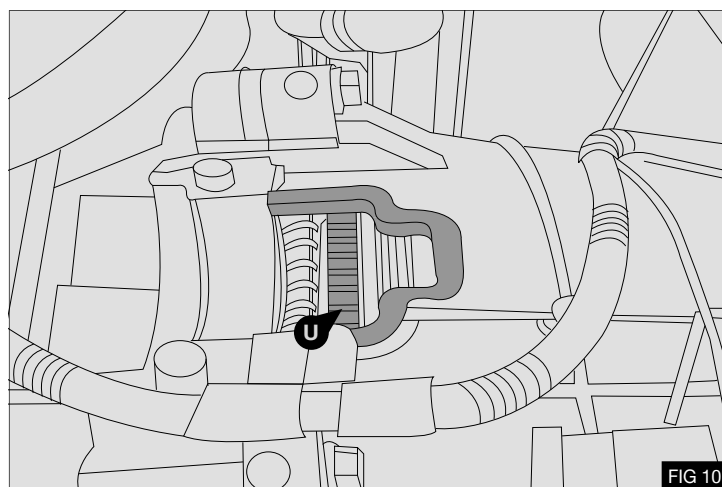

FIG 10
3. Move the starter motor to gain access to the flywheel ring gear (U) - Fig 10
4. Using a suitable tool lock the flywheel ring gear at point (U) - Fig 10